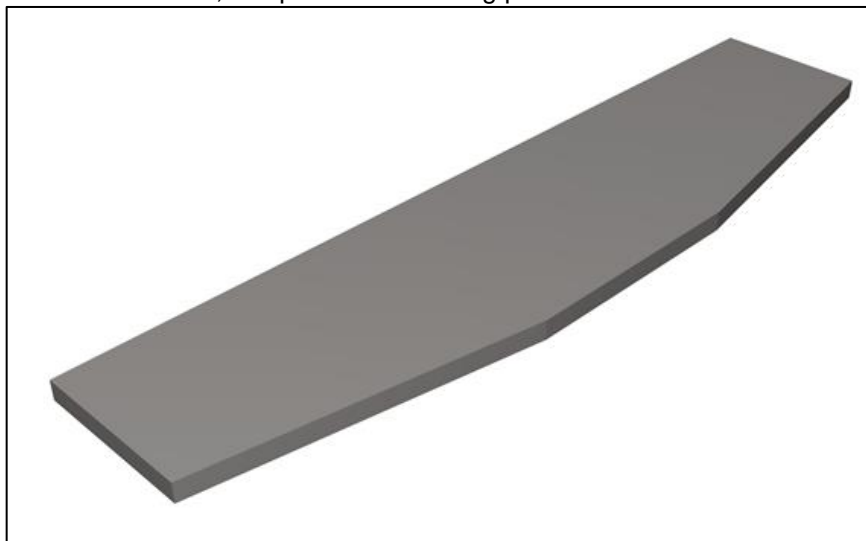

Figure 1 Spade profiled Lip Plate
- 2.1.1. Profile cut lip plate from Hardox 400 or 450 Q/T or equivalent Steel to the dimensions specified in layout drawing. Refer Figure 1.